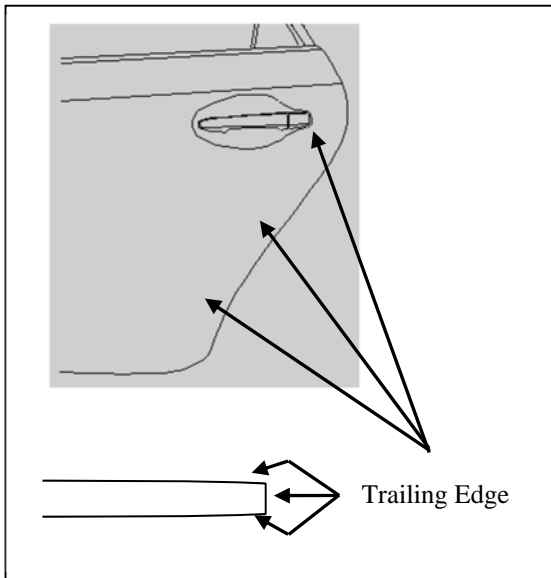

Fig. 1-1
- (1) Spray three to four pumps of Simple Green (or VDC approved cleaner) onto a lint free towel and pinch the wet towel between your thumb and forefinger while running along the length of the door edge to clean the inside and outside of the trailing edge of door. Make several passes to ensure the wax and oil have been removed (Fig. 1-1).